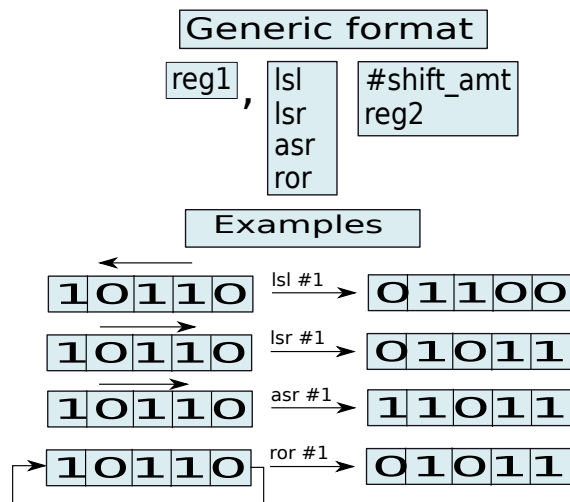

Figure 4.1: Format of shifter operands
intuitive. Let us describe shifter operands in this section. Their generic format is shown in Figure 4.1.
A logical left shift operation is shown in Figure 4.1. In this example, we are shifting the value 10110 one place to the left. We need to shift in an extra 0 at the LSB position. The final result is equal to 01100. A left shift operation is present in most programming languages including C and Java. It is denoted by the following symbol: \ll . Note that shifting a word (4 byte number) by k positions to the left is equivalent to multiplying it by 2^k . This is in fact a quick way of multiplying a number by a power of 2.
Let us now consider the right shift operation. Unlike the left shift operation, this operation comes in two variants. Let us first consider the case of unsigned numbers. Here, we treat a word as a sequence of 32 bits. In this case, if we shift the bits 1 position to the right, we fill the MSB with a 0. This operation is known as – logical shift right (see Figure 4.1). Note that shifting a number right by k places is usually the same as dividing it by 2^k . The right shift operation in C or Java is \gg .
The right rotate operation performs a right shift on the number. However, it fills the MSB with the number shifted out from the rightmost end. In Figure 4.1, if we right rotate 10110, we get 01011. In this case we have moved the previous LSB (0) to the new MSB. Note that ror (right rotate) by 32 positions gives us the original value. ARM provides a special connotation for *ror #0*. It performs a right shift. It moves the value of the carry flag to the MSB, and then sets the shifted out LSB to the carry flag. This is also referred to as the *rrx* operation. This operation does not take any arguments.